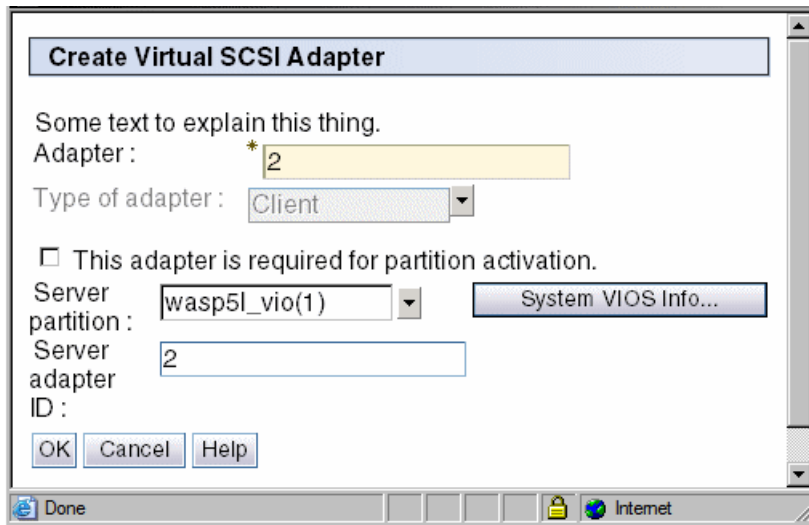

Figure 7-18 Create virtual SCSI adapter
2. You can specify your server partition, get System VIOS info, and specify a tag for adapter identification, as shown in Figure 7-18. When you have entered all of the data, select **OK**.